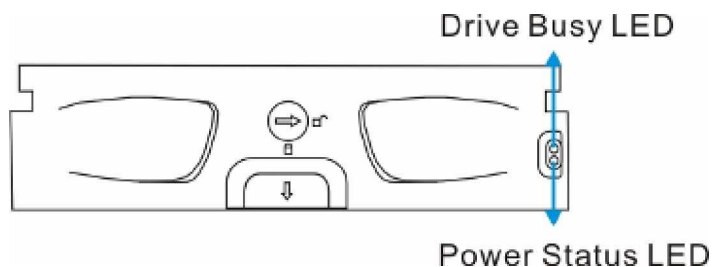

Figure 3-2: Drive Tray LEDs
Two (2) LED indicators are located on the right side of each drive tray. (See **Figure 3-2**) Refer to **Table 3-3** for the LED definitions. When notified by a drive failure message, you should check the drive tray indicators to find the correct location of the failed drive. Replacing the wrong drive can fatally fail a logical array.